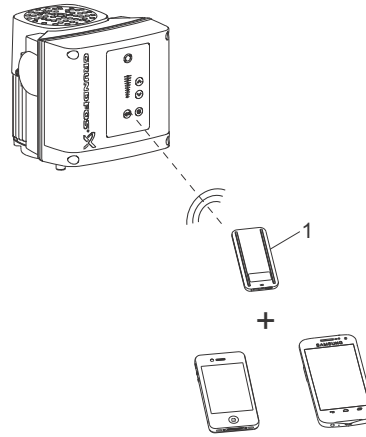

Fig. 11 Grundfos GO Remote communicating with the pump via radio or infrared connection (IR)
Grundfos GO Remote offers the following mobile interfaces (MI). See fig. 11.